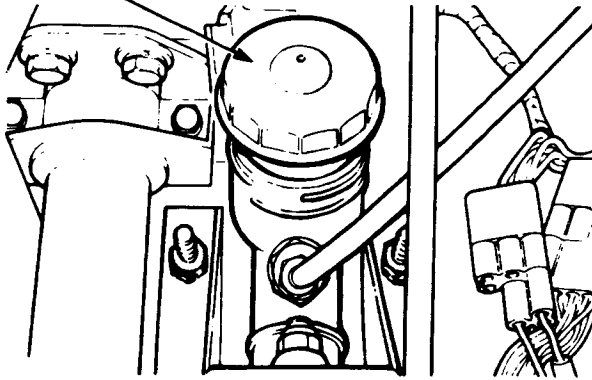

Figure 3-16 Clutch reservoir
**342.** Remove the reservoir cap and check that the fluid level in the clutch reservoir is up to the bottom of the filler neck. If necessary, top-up with clean brake fluid OX (Aust) 8. See Fig. 3-16 for reservoir location.